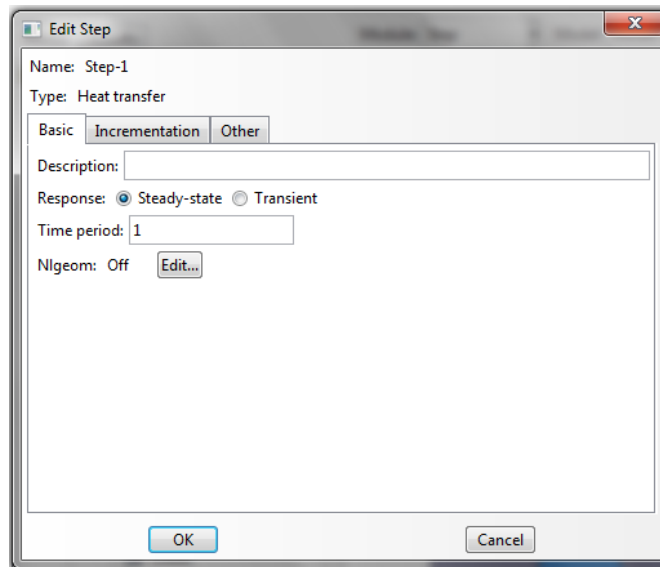

Figure 8A
- Double click on step one bringing up the edit step menu in Figure 8A. Select Stead-State Analysis